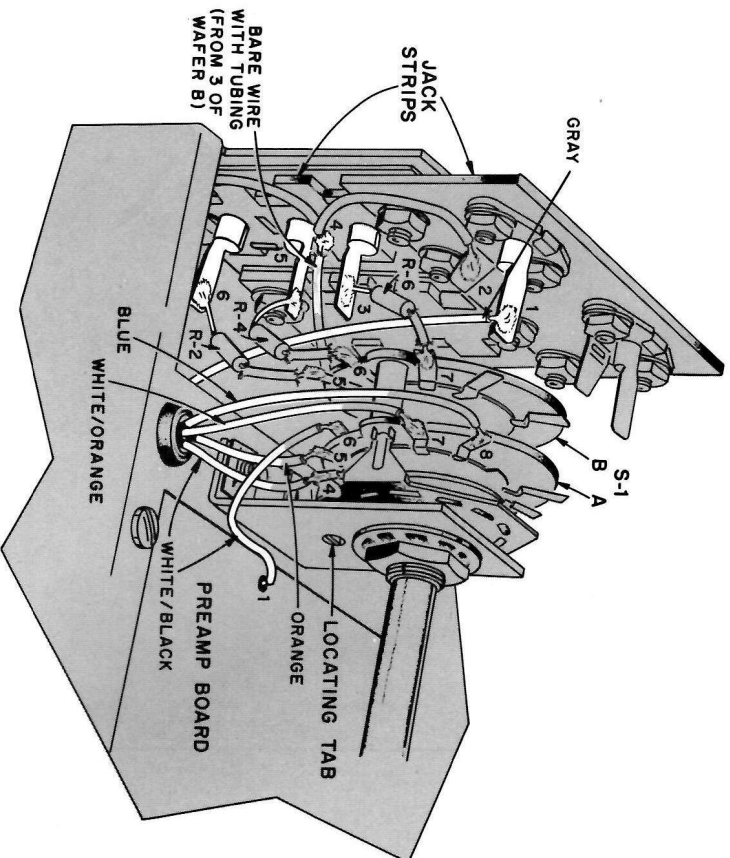

Figure 22
- X Two clip nuts and switch mounting bracket. Slip the clip nuts over the holes in the mounting foot—the flat-side of the clip nuts on the base of the "L". See Figure 22 for another view of this.
SEE FIGURE 22.